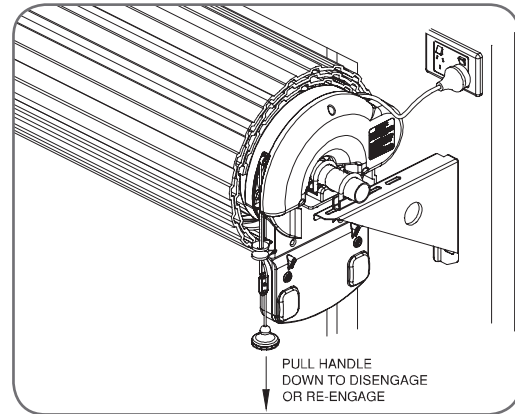

fig 11
- Move the door to half way open. If necessary, disengage the opener by pulling the cord down (**Fig. 11**).